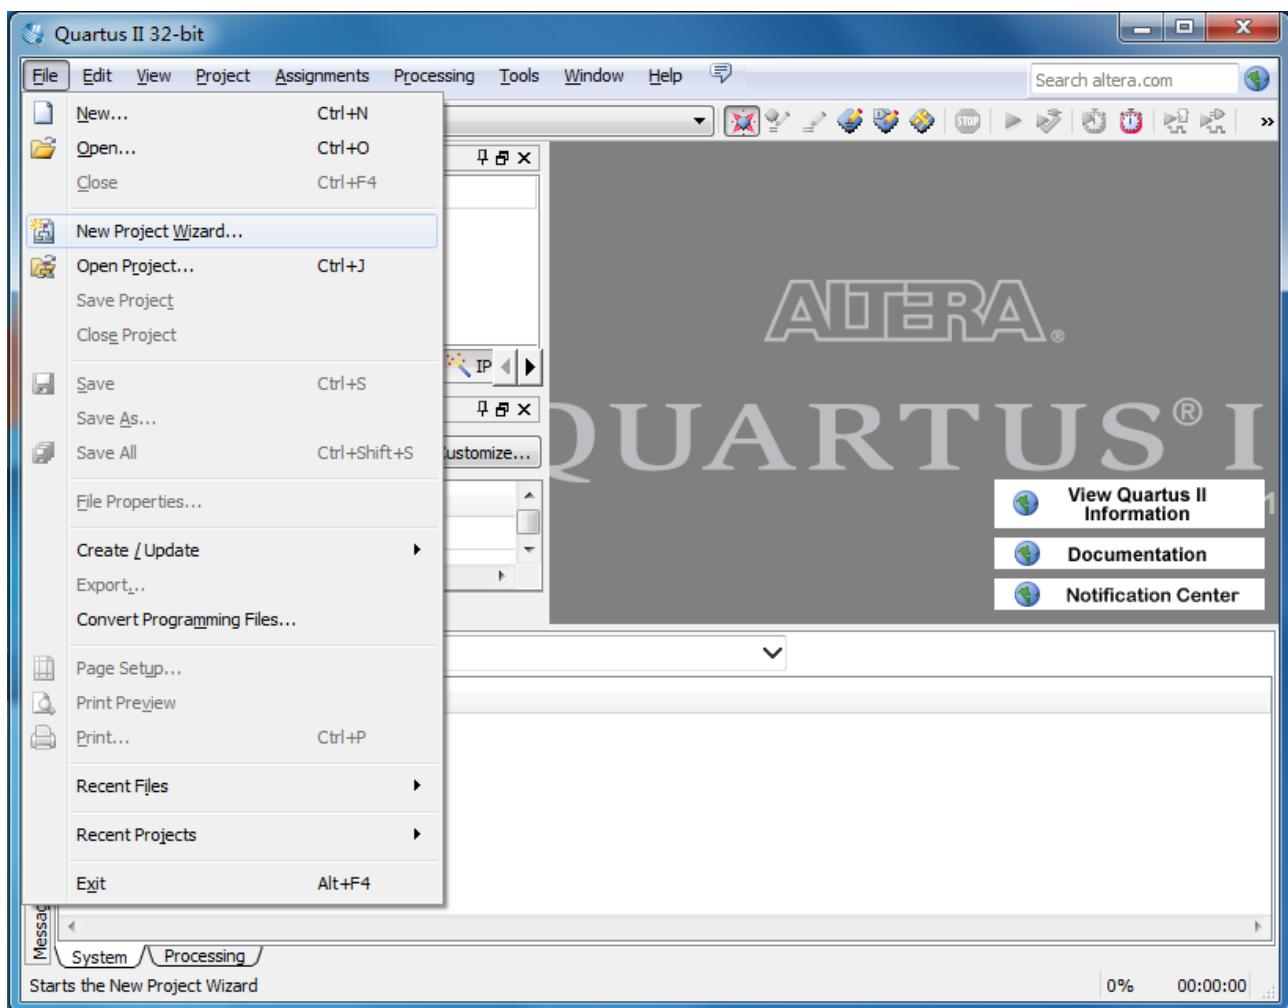
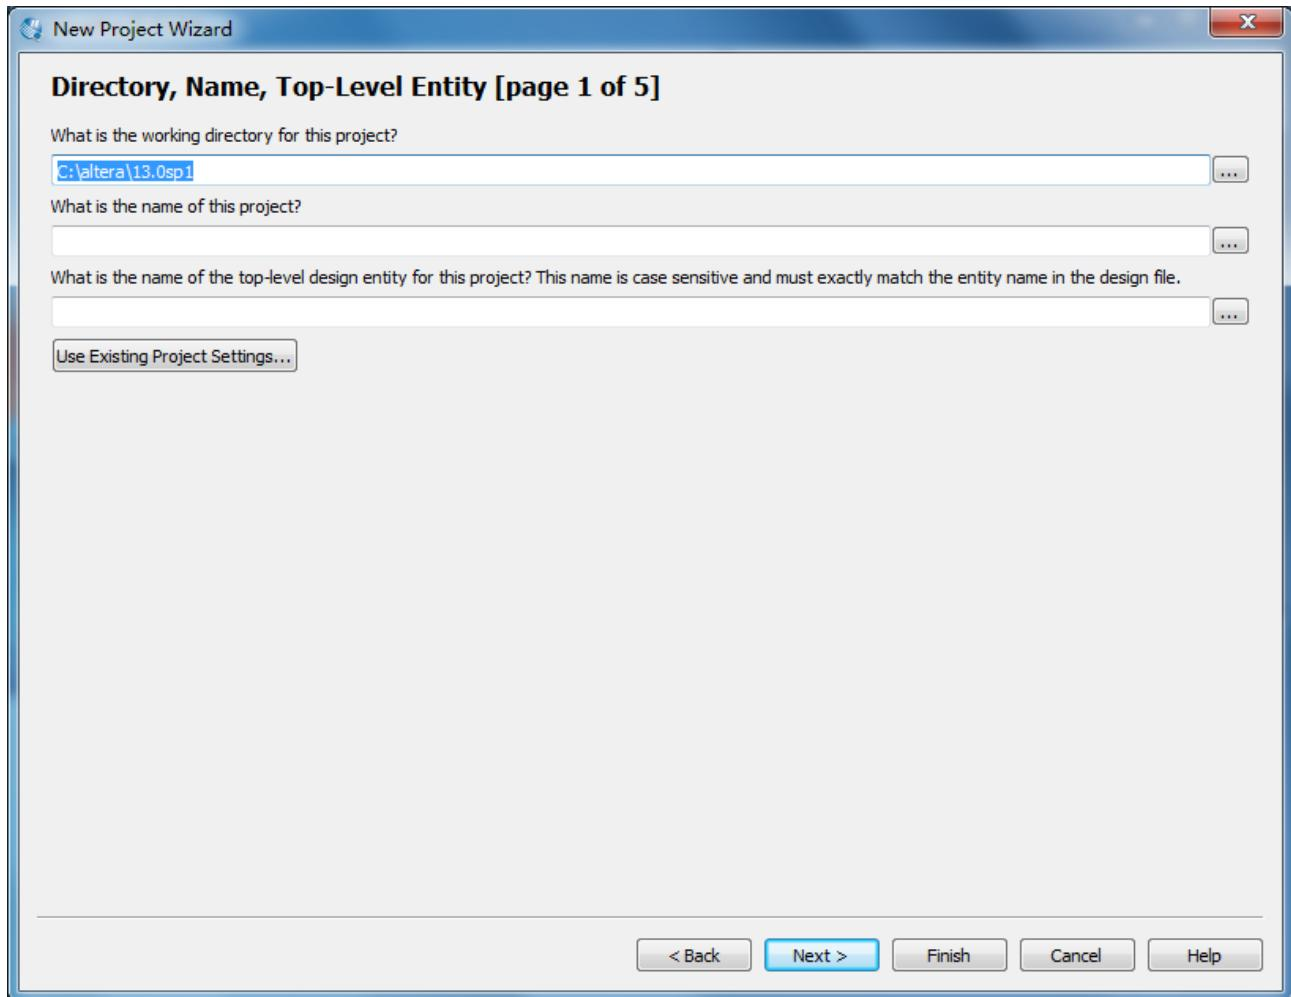

Figure 1-1 Start to Create a New Project
Figure 1-2 New Project Wizard
1. Launch Quartus II then select File->New Project Wizard, start to create a new project. See Figure 1-1 and Figure 1-2.